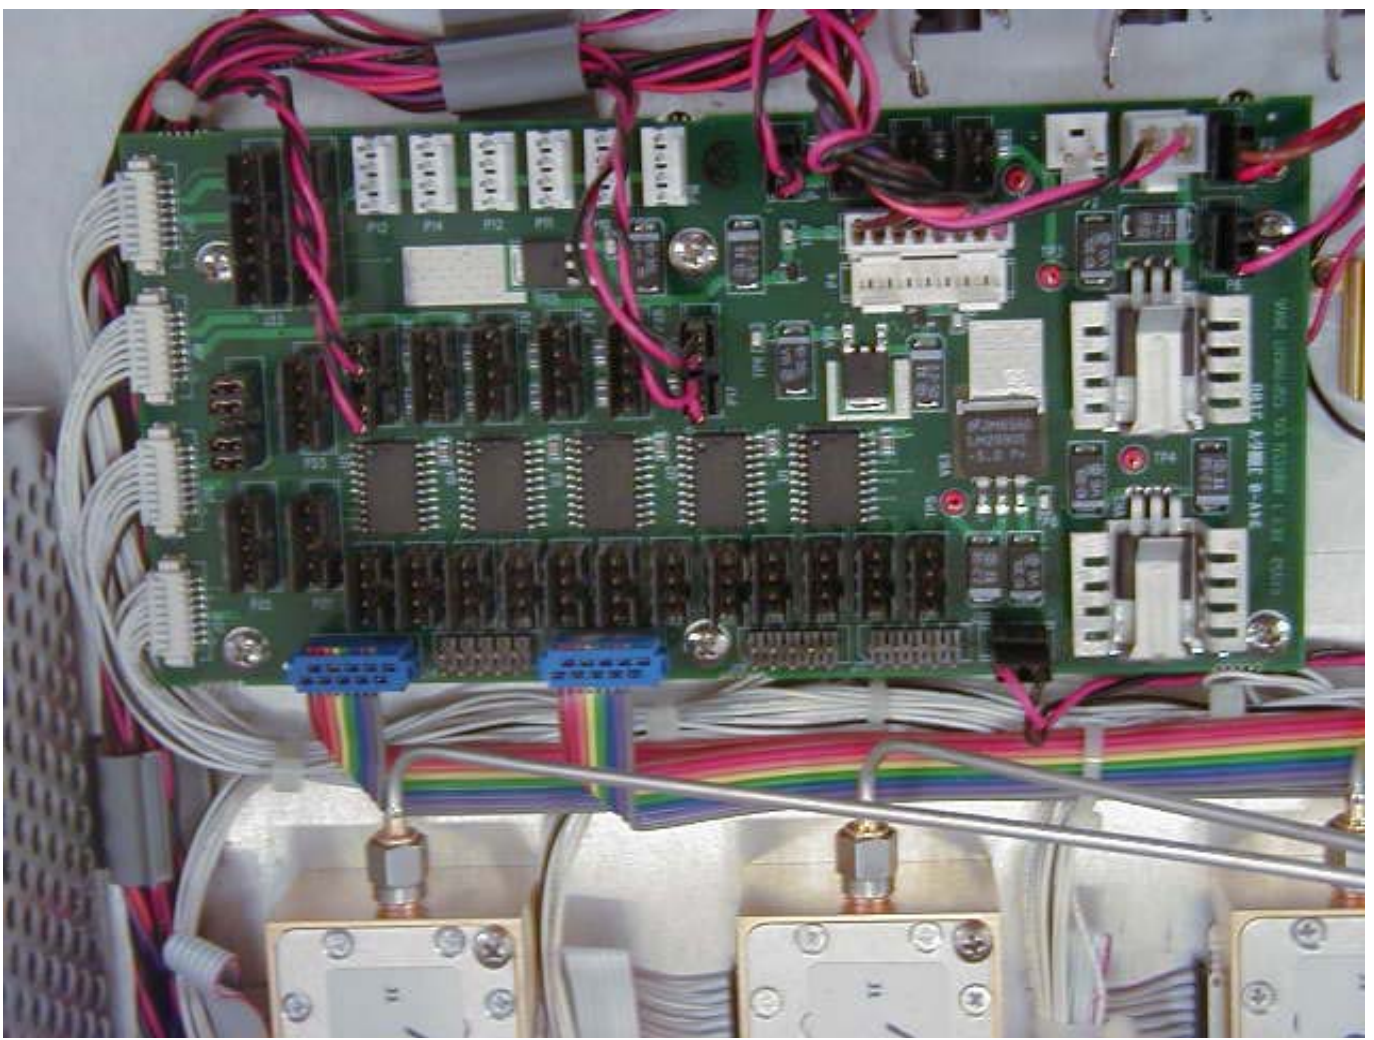

Figure 5-6. 4-Port Test Set Control PCB Assembly
- Figure 5-6 on page 5-9 below shows that two blue ribbon cable connectors are plugged into J13 and J15 on the Control PCB.